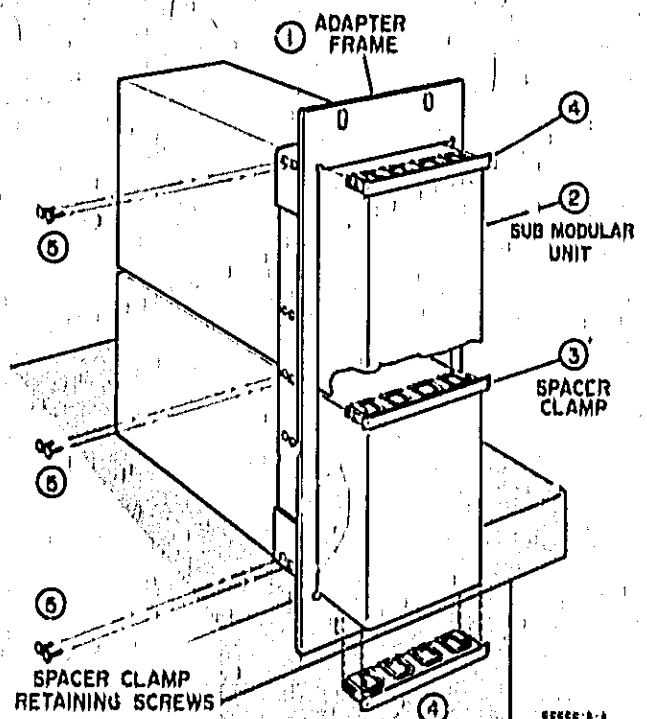

Figure 2-2. Adapter Frame
2-11. **ADAPTER FRAME.** The adapter frame (hp part number 5060-0797) in Figure 2-2 is a rack frame that accepts any combination of submodule units;
a. Place adapter frame on edge of bench as shown in step 1, Figure 2-2. (Only two submodule units are illustrated for clarity. The method of operation is the same for three.)